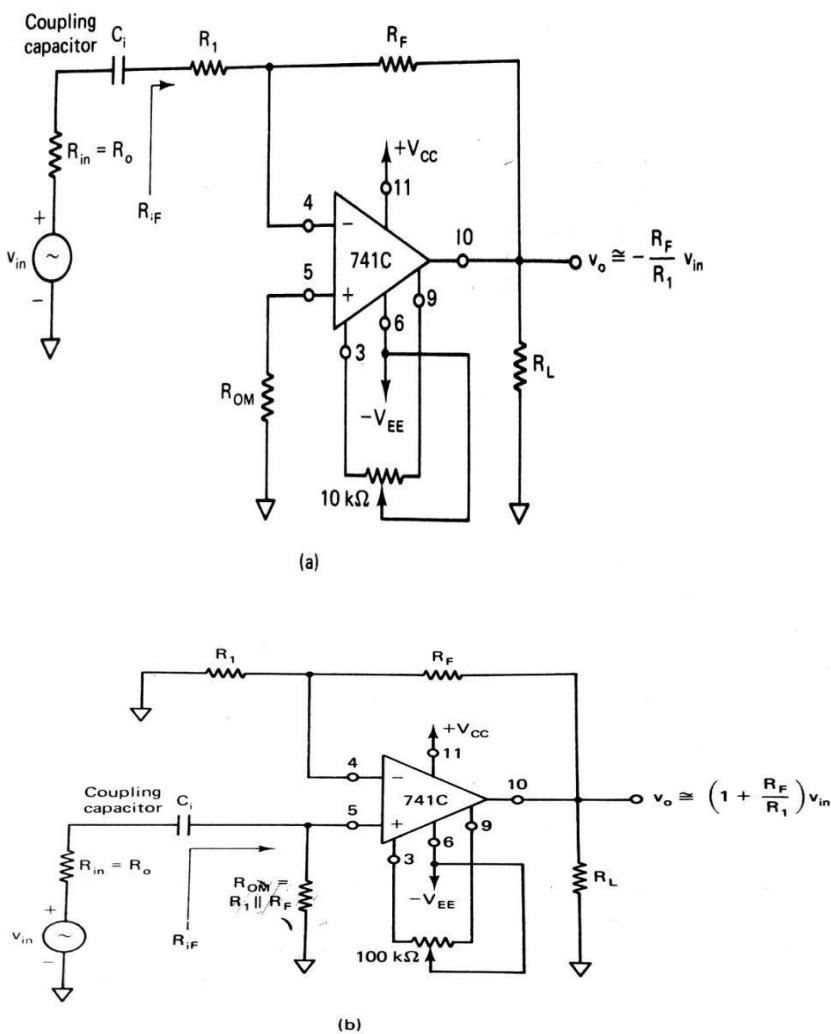

Figure 7-3 (a) AC inverting amplifier. (b) AC noninverting amplifier. (Pin numbers are for the 14-pin DIP.)
- The figure 7-3 shows the AC inverting and non-inverting amplifiers with coupling capacitors.
Example : in the circuit of Fig 7.3(a) $R_{in}=50\Omega$, $C_i= 0.1 \mu F$, $R_1=100 \Omega$, $R_f= 1 K\Omega$, $R_L=10K\Omega$ and supply voltages=+ or – 15 V. Determine the bandwidth of the amplifier